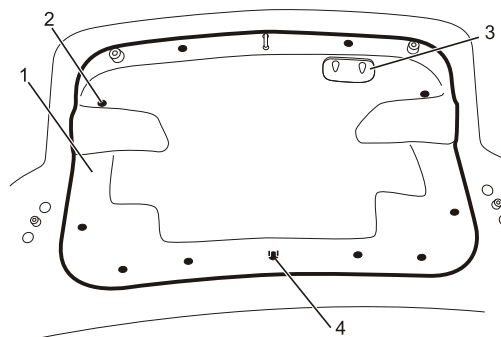

FIGURE 13
35. Remove the decklid carpet trim (1) by removing the 10 fir tree clips (2), removing the assist handle (3) and the spare wheel cover hook (4). Refer to figure 13.